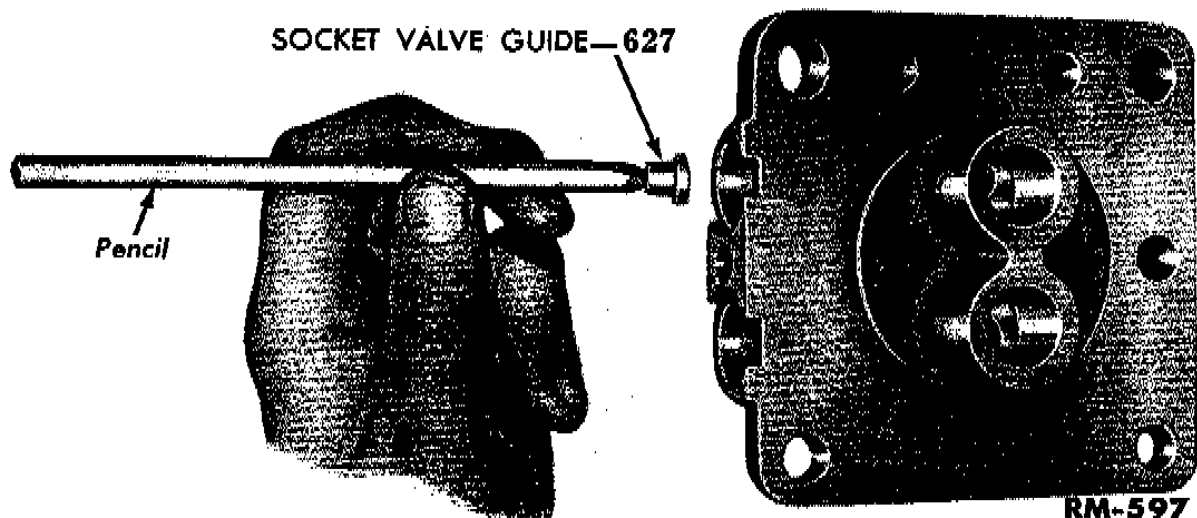
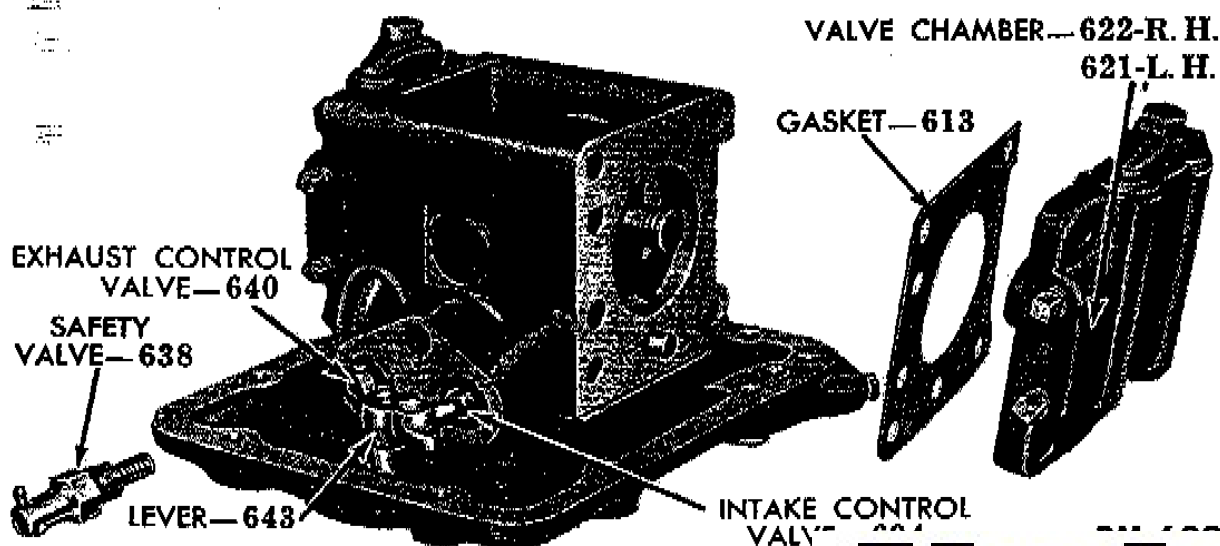
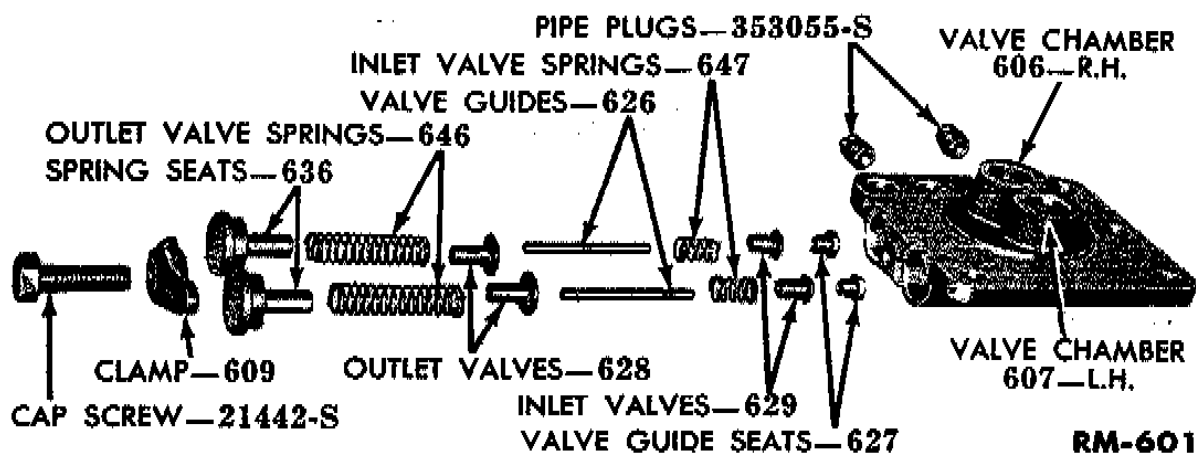

Fig. 23—Removing Valve Guide Seats
Fig. 24—Safety Valve and Val
Fig. 27—Valve Chamber, Disassembled
clamp from each valve chamber cover. Remove the two spring seats, outlet valve springs, outlet valves, inlet valve springs, inlet valves, valve guides, and valve guide seats from each valve chamber (fig. 27). Remove the two valve guide seats from each valve chamber cover with a pencil as shown in fig. 23.
(1) **SAFETY VALVE.** Replace the safety valve (fig. 24) if the check valve surface is ridged, if the ball is worn or damaged, or if the safety valve spring has taken a permanent set as shown by inability to hold the required pressure.
(5) **VALVE CHAMBER**. Replace a valve chamber (fig. 24) if it is cracked or if the inlet valve or outlet valve seats are rough or pitted.
c. Assembly. Lubricate all parts before assembly. Install the exhaust control valve (fig. 27) in the exhaust control valve bushing. Install the intake control valve, spring, washer, and spring retainer in the bushing. Hold the intake control valve in the bushing, and install the valve control lever (fig. 27). Connect the exhaust control valve to the control lever with a clevis pin and cotter pin. Secure the control lever to the cover with a cotter pin. Install the safety valve assembly (fig. 24) on the pump base. Install the valve guide socket, valve guide, inlet valve, inlet valve spring, outlet valve, outlet valve spring, and valve chamber plug as shown in fig. 27. Secure the valve assembly in place with the top clamp and cap screw. This procedure applies to both the left and right valve chambers. Install the cam block on the cam as shown in fig. 26. Install a piston on each cam block, making sure that the narrow parts of the offset on each piston are together when the pistons are installed on the cam blocks. After the pistons are assembled on the cam block, the pistons may be fitted to the cylinders in a valve chamber to be sure that the pistons have been assembled correctly on the cam block. Install the power take-off bushing in the pump base. The shoulder bushing must be installed toward the